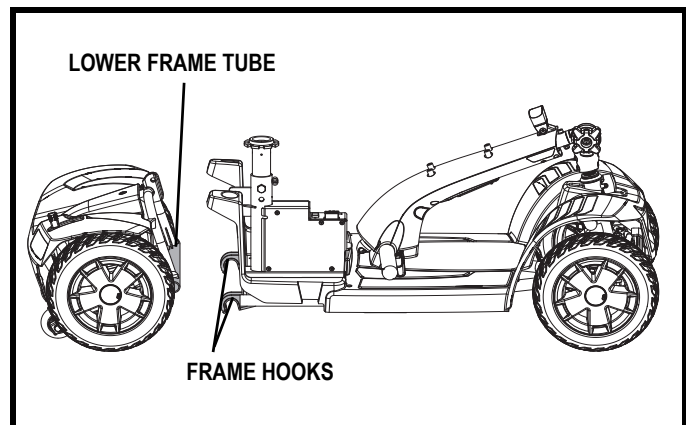

Figure 24. Frame Separation
3. Lift up on the seat post and pivot the rear section backwards until the frame hooks are no longer resting on the lower frame tube. See **figure 24**.
4. Slowly separate the two sections of the scooter. See **figure 24**.
1. Position the front and rear sections of your scooter as shown in **figure 24**.
2. Lift the front section as you align the frame hooks of the front section with the lower frame tube of the rear section. See **figure 24**.